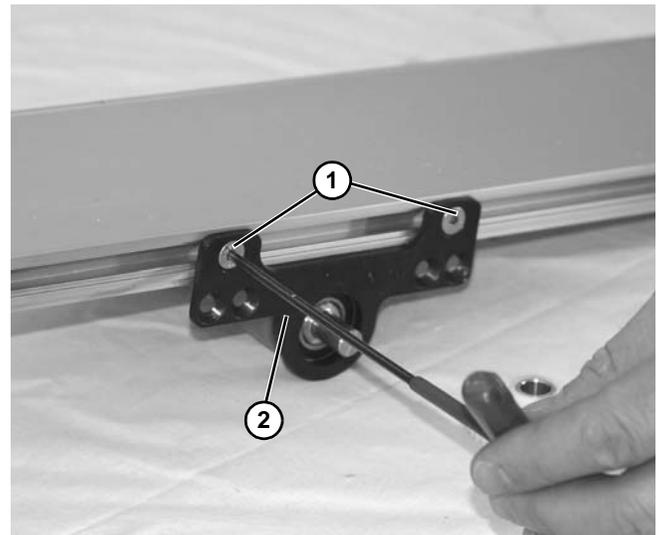

Figure 37
3. Remove two screws (Figure 37, item 1) from each side of pinch plate (Figure 37, item 2).